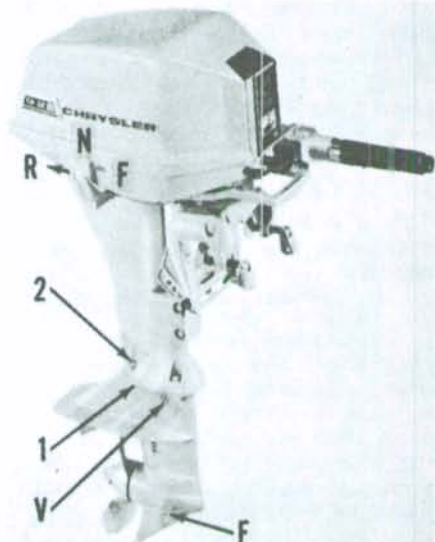

Fig. C2-13—View of 9.2 hp motor showing two of the screws (2) and nuts (1) that attach upper gearcase housing to motor leg (exhaust housing).
To detach the upper gearcase from the exhaust housing, proceed as follows: Shift to Reverse gear, then remove the four nuts (1—Fig. C2-13) and screws (2). Lower the
When reassembling, notice that screw (31) is 1½ inches long and the two front screws (32) are 1 inch long. Drive shaft spline seal (24) should be renewed if hard or cracked. Lubricate water tube seal (21) and splines on upper end of drive shaft (22). Position gearcase assembly so that shift rods (7 & 9) can be connected with screws (8). Carefully slide the housings together making certain that water tube (18) enters seal (21) and install the four retaining screws (2—Fig. C2-13) and nuts (1).
R&R AND OVERHAUL. To detach the upper gearcase from the exhaust housing, shift to Reverse gear, then remove the four nuts (1—Fig. C2-13) and screws (2). Lower the gearcase and remove the two screws (8—Fig. C2-14) that attach the two sections of shift rod (7 & 9) together.